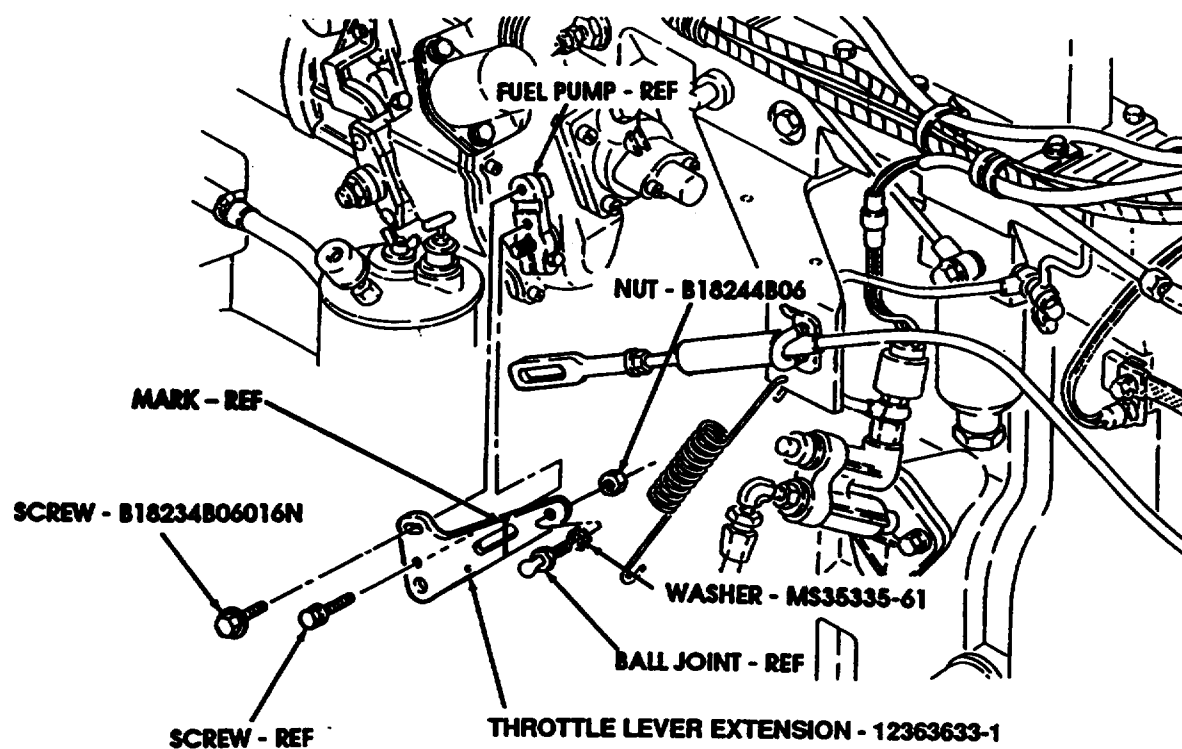

FIGURE 7
- (2) Install MS35335-61 washer and ball joint on throttle lever extension (12363633-1) with B18244B06 nut as shown in figure 7.
- (3) Install throttle lever extension (12363633-1) on fuel pump with existing screw and B18234B06016N screw as shown in figure 7.